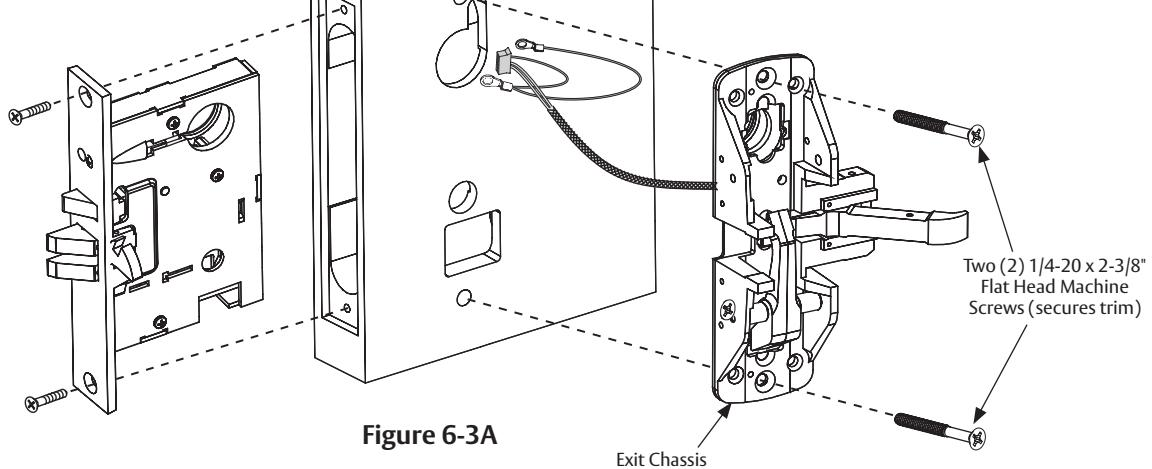

Figure 6-3A
NOTE: Exit chassis harness consists of a 6-pin female connector and two different-sized ground lugs (Figure 6-3A).
2. Feed 6-pin connector and larger ground lug straight through to outside of door (Figures 6-3A, 6-3B) while feeding smaller ground lug into wire hole, up through wire channel and out through inside of door (Figure 6-3A).